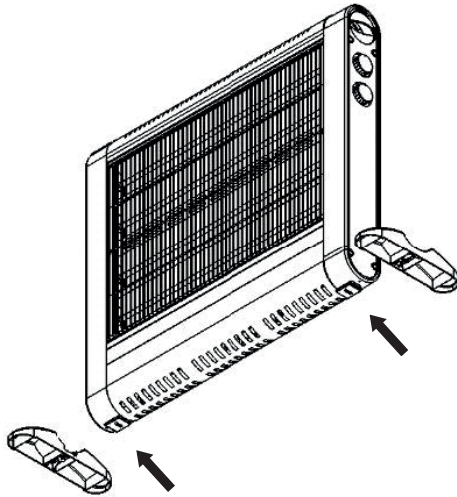
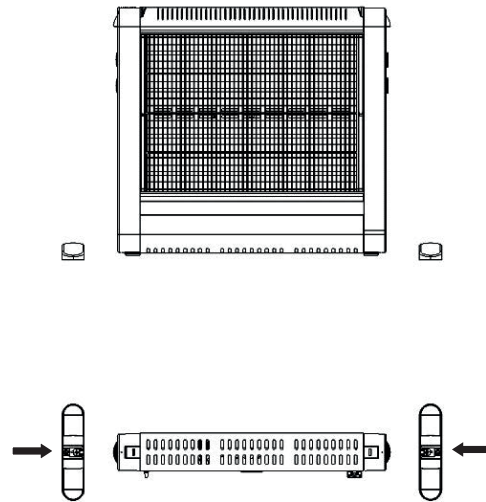

Figure 1-1
Figure 1-2
- After removing the product from the packaging, place the feet on the skids on the body as shown in Figure 1-1, then push the slides in the direction shown in Figure 1-2 until they slide to the end of the canal.